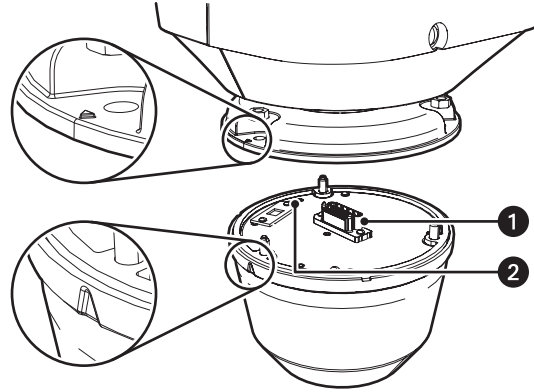

Figure 6. Attaching Base and Pan/Tilt
9. Turn on the system power. The red power LED is located on the top of the power module (refer to Figure 6 on page 15). If the red LED glows, turn off the power and proceed to the next step.